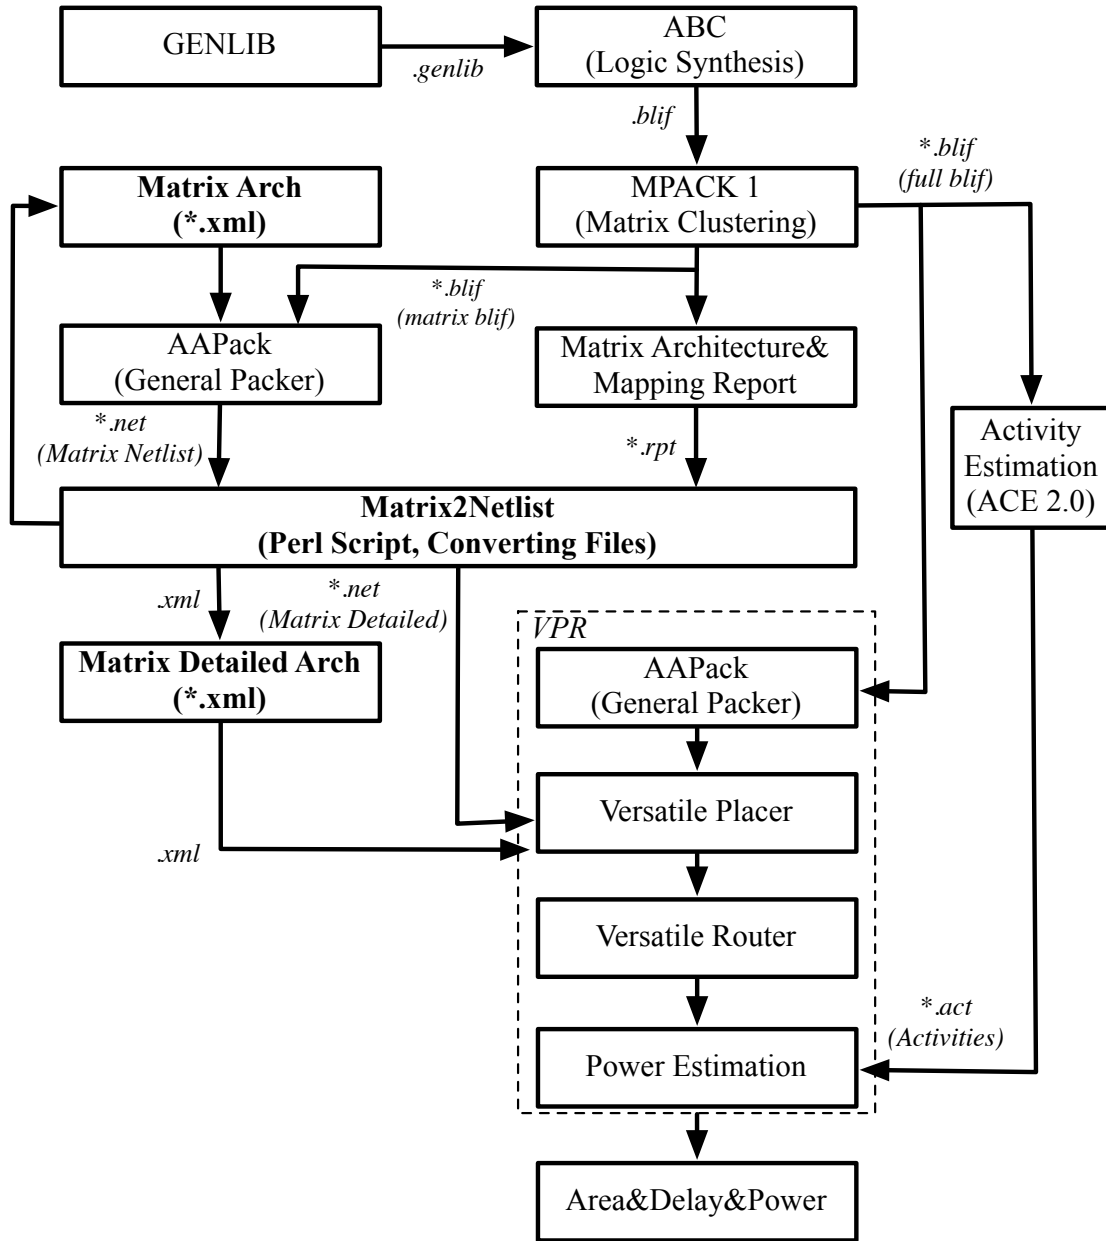

Fig. 1. MPACK1 flow
MPACK1 scripts are developed to integrate MPACK1 into VPR7 (Versatile Place & Route) CAD flow. A Perl script, *mpack1_mix_flow.pl*, manages the MPACK1 flow shown in Fig. 1. The Perl script, connecting ABC (Logic Synthesis Tool), MPACK1 (Matrix-based BLE Packer), VPR 7 and another Perl script, *m2net.pl*, generates a table (CSV file) containing area, delay and power of a given matrix-based cluster architecture.
In Fig. 1, input circuit is first synthesized by ABC with logic optimization, then MPACK1 packed the circuits into matrix-based BLEs (*Basic Logic Elements*). AA-Pack clusters the matrix-based BLEs into CLBs (Configurable Logic Blocks).
Output matrix-based blif file of MPACK1 cannot be directly supported by VPR7 timing analysis engine because VPR7 requires more detailed architecture description and mapping information inside each matrix-based BLE. Perl script, *m2net.pl*, aims to fit the results from MPACK1 to VPR7 timing engine through (1) auto-generating the architecture description of matrix-based clusters with given settings, (2) inject the internal interconnections inside packed matrix-based clusters into the netlist (*.net) generated by AA-Pack. Works from *m2net.pl* are bold in Fig. 1.
MPACK1 outputs two blif files, one (called as matrix-blif in Fig. 1) without internal interconnection information inside matrix-based BLEs, the other (called as full-blif in Fig. 1) providing full internal interconnection information inside matrix-based BLEs. Besides, MPACK1 outputs a report file including the matrix architecture and internal connections of each matrix-based BLE. Perl script, *m2net.pl*, generates the architectural descriptions based on the matrix-blif. AA-Pack uses the matrix-blif to pack matrix-based BLEs into CLBs, and outputs results into a netlist (matrix netlist in Fig. 1). Perl script, *m2net.pl*, generates the detailed architectural descriptions based on the full-blif and MPACK1 report, and then inject the internal interconnections into the netlist from AA-Pack. To conduct power estimation, activity estimator (ACE 2.0) reads in the full-blif and outputs the activities file (*.act). VPR7 reads the full-blif, the netlist and detailed architecture description from *m2net.pl*. VPR7 produce area, timing and power of a hypothesis FPGA consisting of matrix-based clusters.